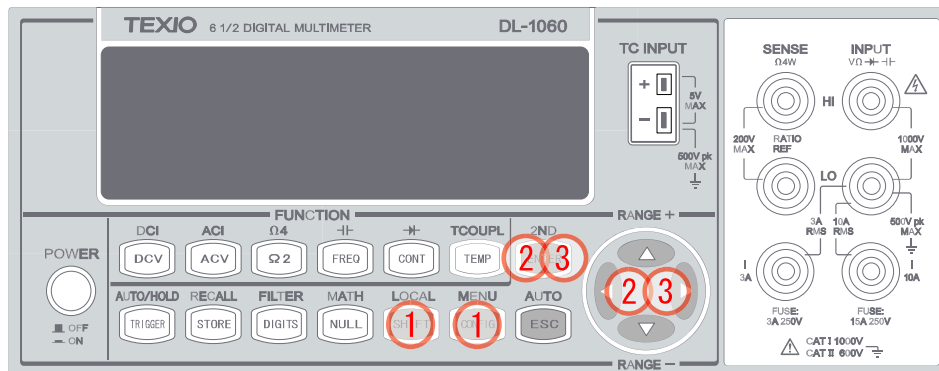

Figure 3-22
1. Press SHIFT+CONFIG buttons as shown in **Figure 3-22**.